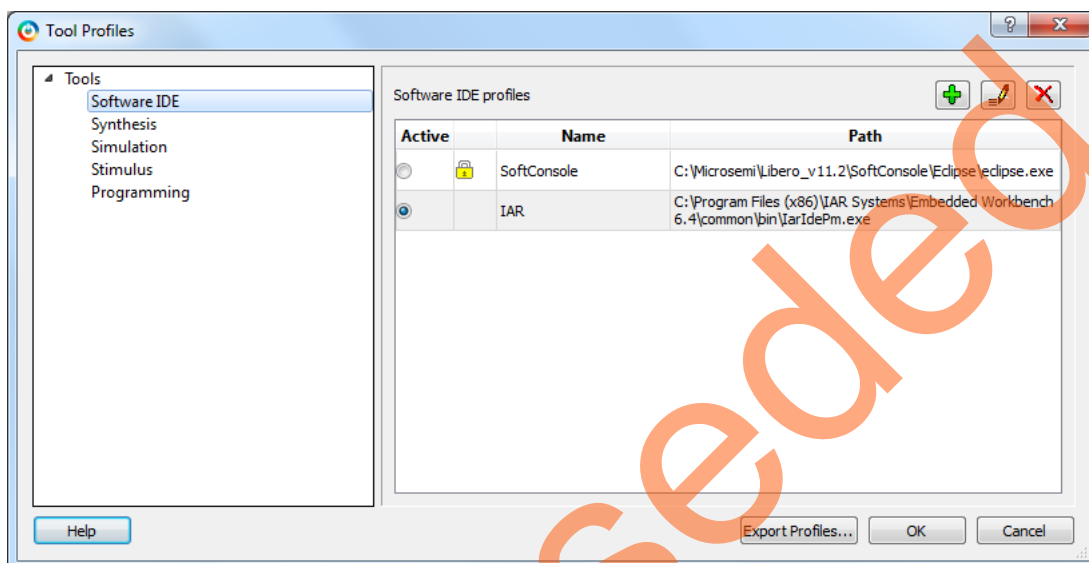

Figure 4 • Tool Profiles
5. Clicking **Edit Tool Profiles** (highlighted in Figure 3 on page 7) displays the **Tool Profiles** window as shown in Figure 4. Check the following tool settings: